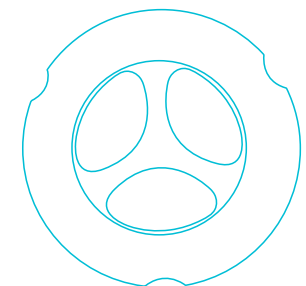

Fig. 12
- 12 • The Tippy Tap Dance Board can be used on its own (Fig. 12). Ensure to keep the board on a flat surface in a safe area.